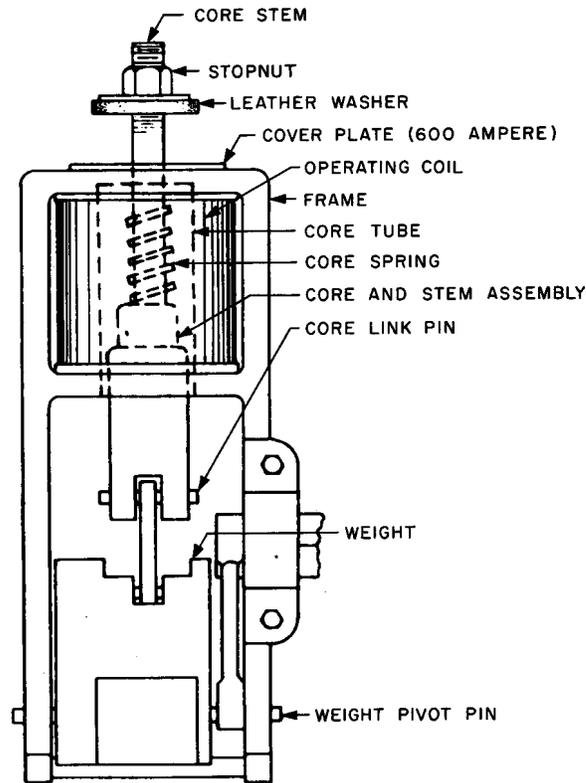

Fig. 3 - Typical Operating Solenoid Assembly
3.05 Operating Coil — See Fig. 3